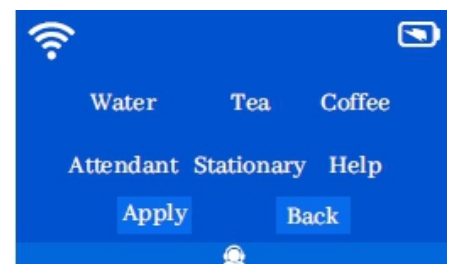

Figure 5.7: Service request screen
- The service request screen will appear on the screen as shown in the figure 5.7.